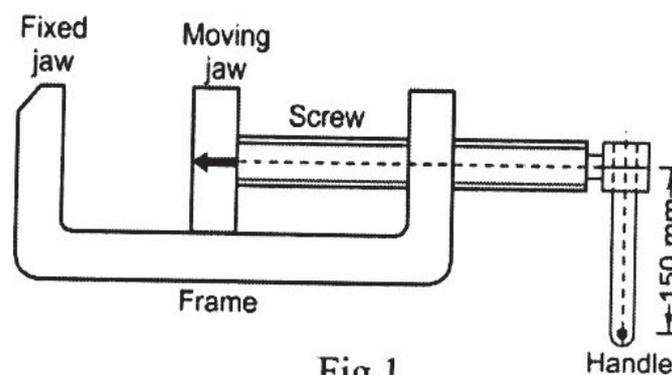

Fig.1
b) A machine vice, as shown in Fig. 1 has single-start, square threads with 22 mm nominal diameter and 5 mm pitch. The outer and inner diameters of the friction collar are 55 and 45 mm respectively. The coefficients of friction for thread and collar are 0.15 and 0.17 respectively. The machinist can comfortably exert a force of 125 N on the handle at a mean radius of 150 mm. Assuming uniform wear for the collar, calculate; [12]